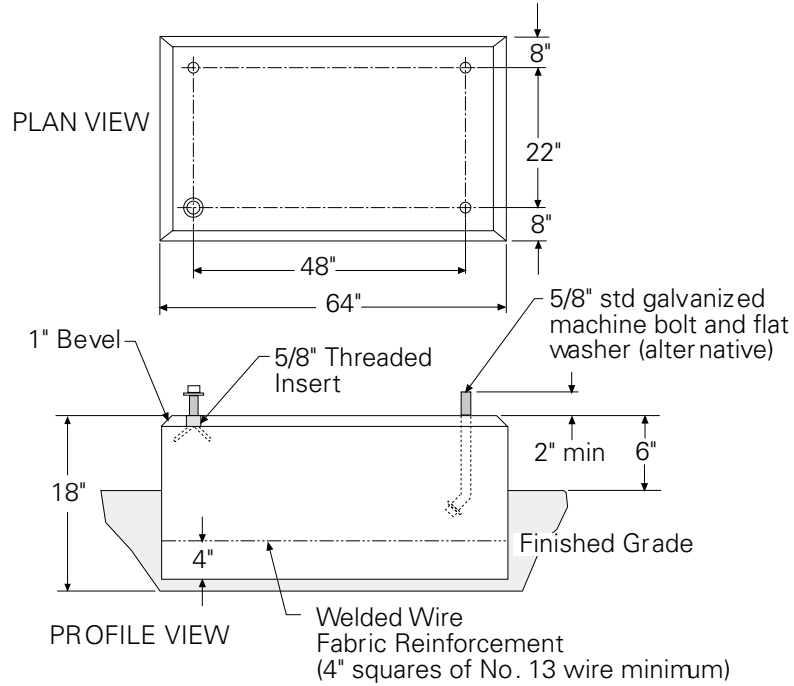

Figure 2. Location of anchoring holes and hardware in foundation of substation frame.
be fabricated by a local concrete products firm. See the dimensions in the plan and profile views of Figures 2 and 3. The overall weight of a recloser with frame and accessories is approximately 2,000 pounds.
The assembly of the basic substation frame is shown in Figures 2–6. The parts are identified in Table 3.
Refer to Figures 2–4 and Table 3.
2. Fasten the posts to the mounting pad with 5/8-inch hardware (Figure 2).